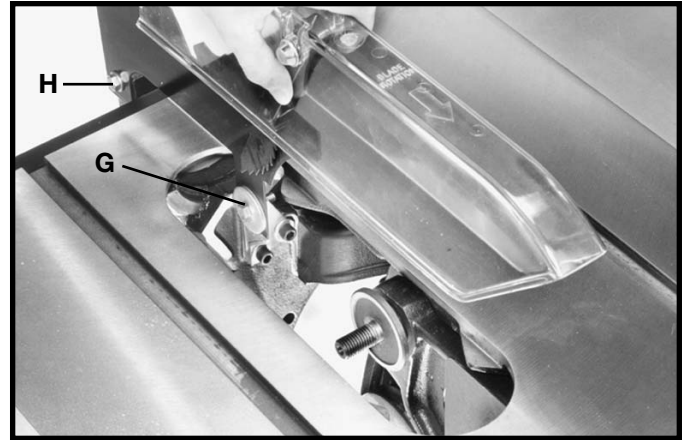
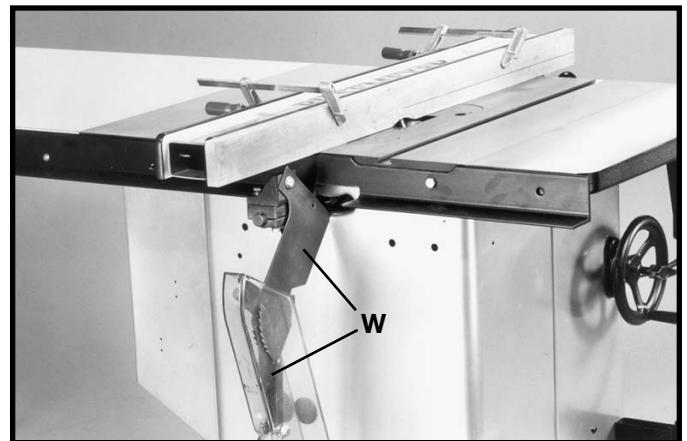

Fig. 133
Fig. 134
IMPORTANT: For certain cutting operations such as dadoing and moulding where you are not cutting completely through the workpiece, the blade guard and splitter assembly cannot be used. Simply loosen screws (G) and (H) Fig. 133. Lift up and swing blade guard and splitter assembly (W) Fig. 134, to the rear of the saw as shown in Fig. 134. **CAUTION:** Always return and fasten the blade guard and splitter assembly to its proper operating position for normal thru-sawing operations.